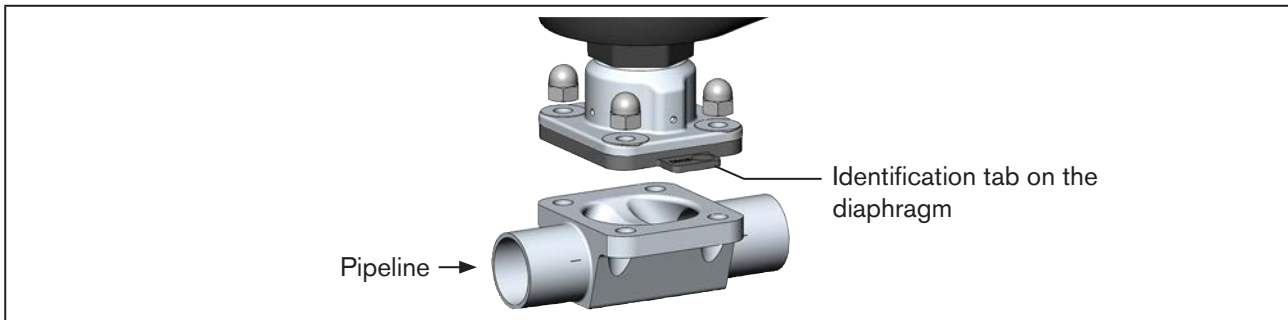

Figure 88: Aligning the diaphragm (example 2-way body)
The identification tab on the diaphragm must protrude out of the valve body at right angles to the longitudinal axis of the pipeline (see “Figure 88”).
- Align diaphragm. The identification tab on the diaphragm must protrude out of the valve body at right angles to the longitudinal axis of the pipeline (see "Figure 88").
- ⚠ Before installing the actuator, check whether the diaphragm is free of damage and correctly aligned. The mark tab of the diaphragm must protrude from the valve body at a right angle to the longitudinal axis of the pipeline (see "Figure 88").